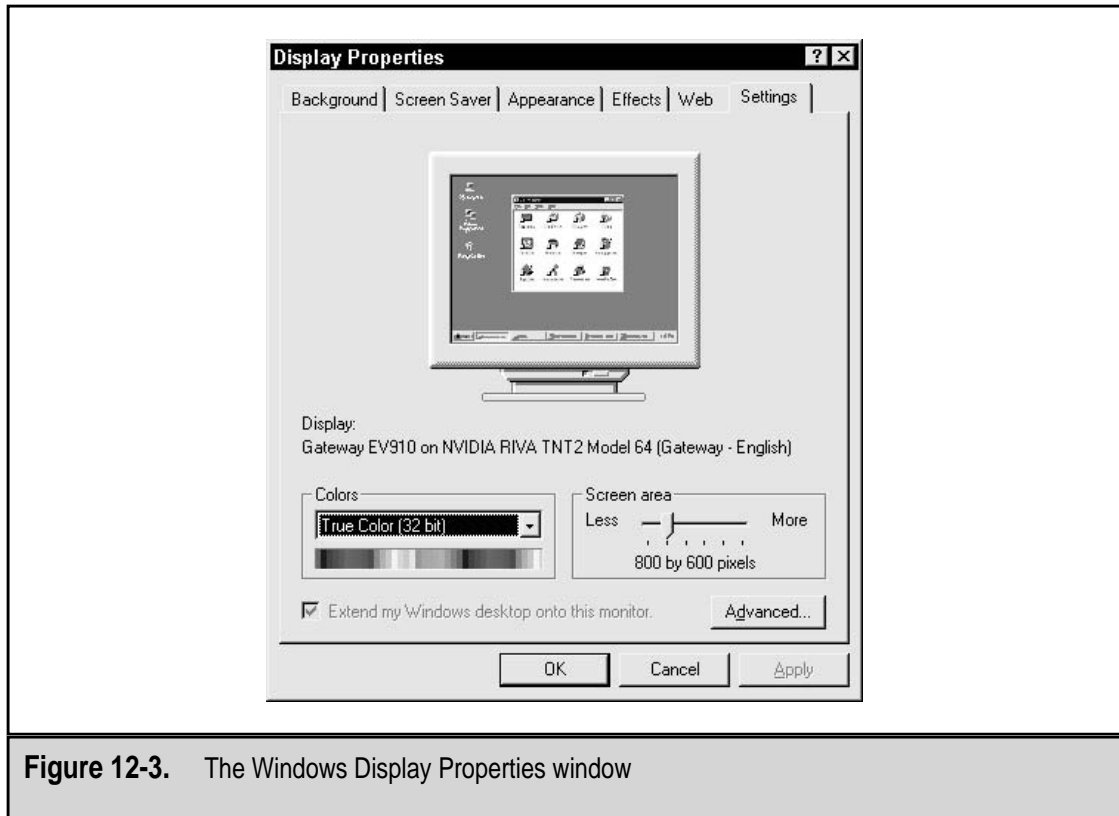

Figure 12-3. The Windows Display Properties window
2. Select Properties to open the Display Properties window, shown in Figure 12-3.
3. Select the Settings tab (as shown in Figure 12-3) to display the resolution and color depth settings currently in use. Make a note of the current display settings in use.